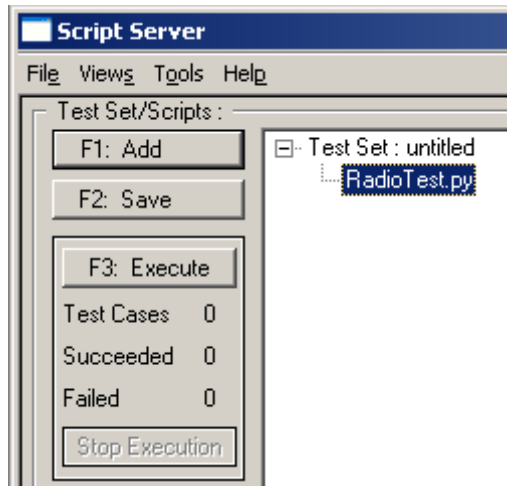

Figure 6-10. Script Server Window (Run Scripts/Test Sets)
4. As shown in Figure 6-10, from the Script Server window, highlight the `RadioTest.py` file and click on the F3: Execute button to start the selected Scripts/Test Set.